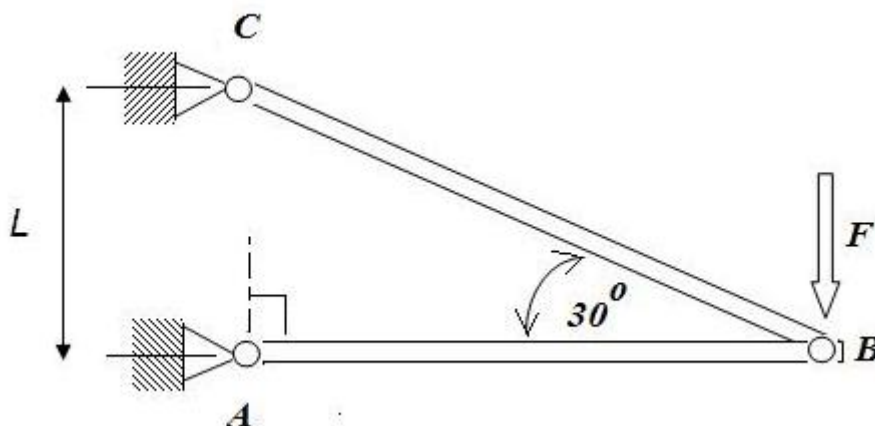

Fig Q6
6. A pin-jointed truss structure consists of two elements, AB and BC, as shown in Fig Q6. The structure is subjected to a vertical load F at point B. The cross-sectional area of each truss element is A_e and the material's modulus of elasticity is E_e . L is the vertical distance between the supports A and C.